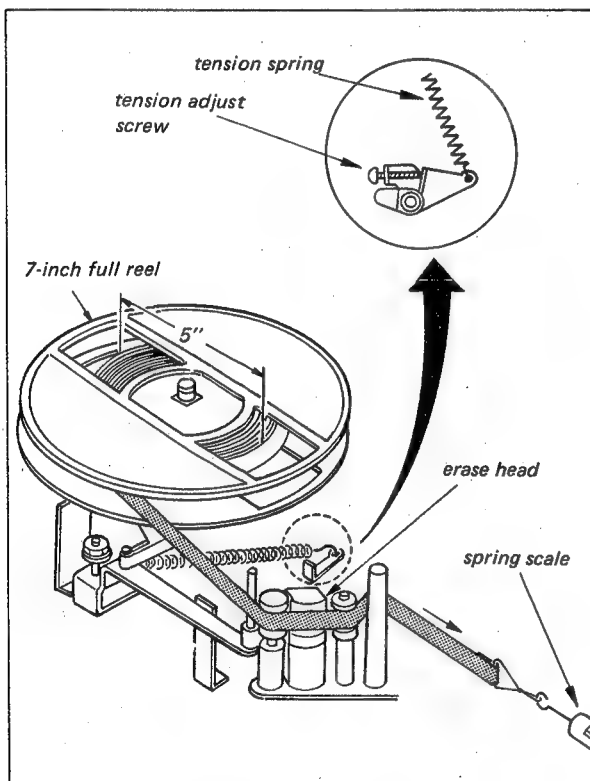

Fig. 4-11. Tape tension adjustment
2. Make a loop in the tape and attach a spring scale as shown in Fig. 4-11.
4. If the reading is outside the 40 ~ 45 gram limits, adjust the tape tension adjustment screw (see Fig. 4-11) to bring it within specification.